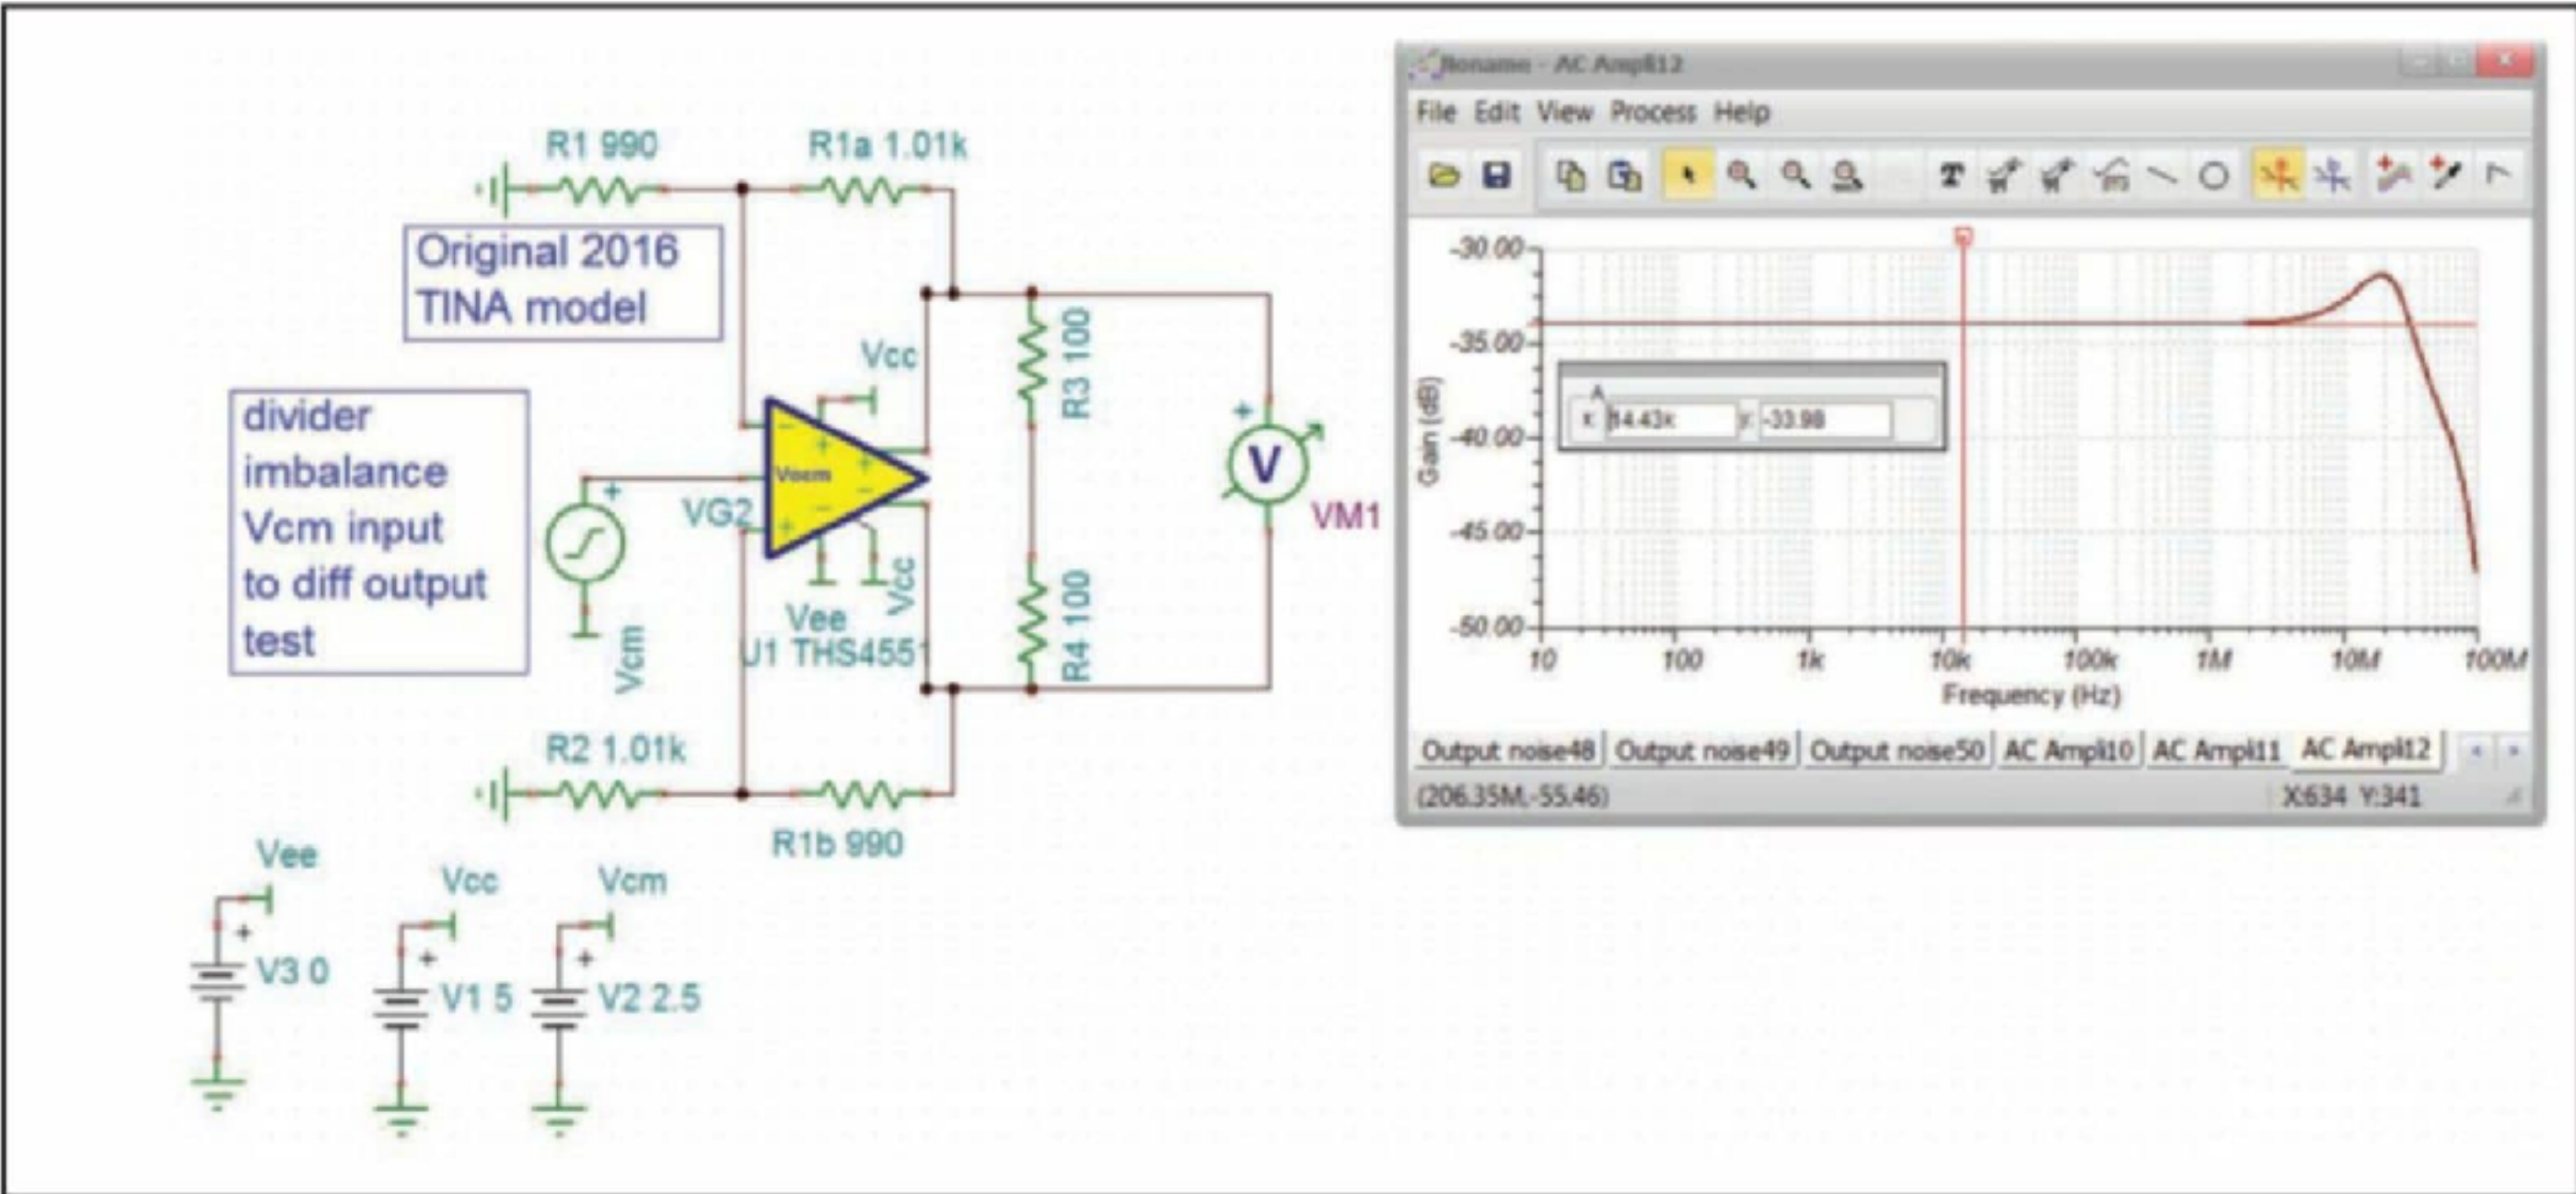

Figure 2: The conversion gain from CM noise to DM noise is depicted with ratio imbalance.
if the feedback ratios are even slightly unbalanced, that high CM noise below 10 Hz will generate a meaningful differential component that adds to the FDA's intrinsic differential output noise. **Figure 2** shows a CM to differential mode (DM) conversion simulation driving an AC signal into the V_{OCM} control input with worst case feedback ratio imbalance using 1% tolerance R values.